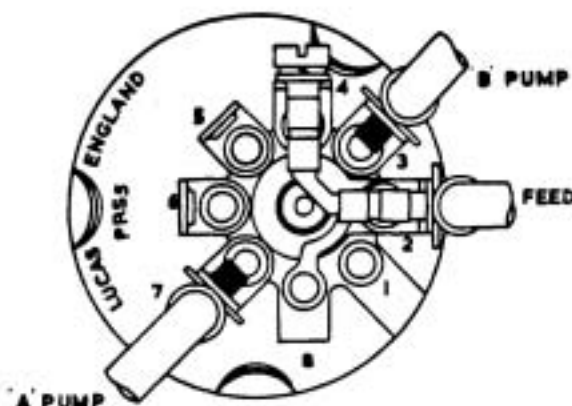

FIG.2. WIRING DIAGRAM FOR PETROL PUMP SWITCH.
2. Connect bridge piece (RH.303) between terminals 2 and 4 as shown in Fig.2.
4. Connect the positive side of Demister Switch to the main feed of the petrol pump switch (See Fig.2.)
6. Remove and discard the short length of wire fitted between the rear and front petrol pump terminals, and then disconnect the cable running from the pumps to the fuse box. Connect a length (6' 6") of new cable to each of the pump terminals, and then feed these cables through metal conduit up to the twelve-way junction box. Wire the pumps to the two terminals carrying the petrol switch connections, ensuring that the forward pump is wired to the terminal corresponding to 'A' on the pump switch and the rear pump to the 'B' terminal as shown in Fig.2.